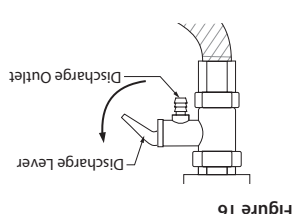

Figure 16
- Drain the water by lifting the Safety valve upwards. (Refer "Figure 16")